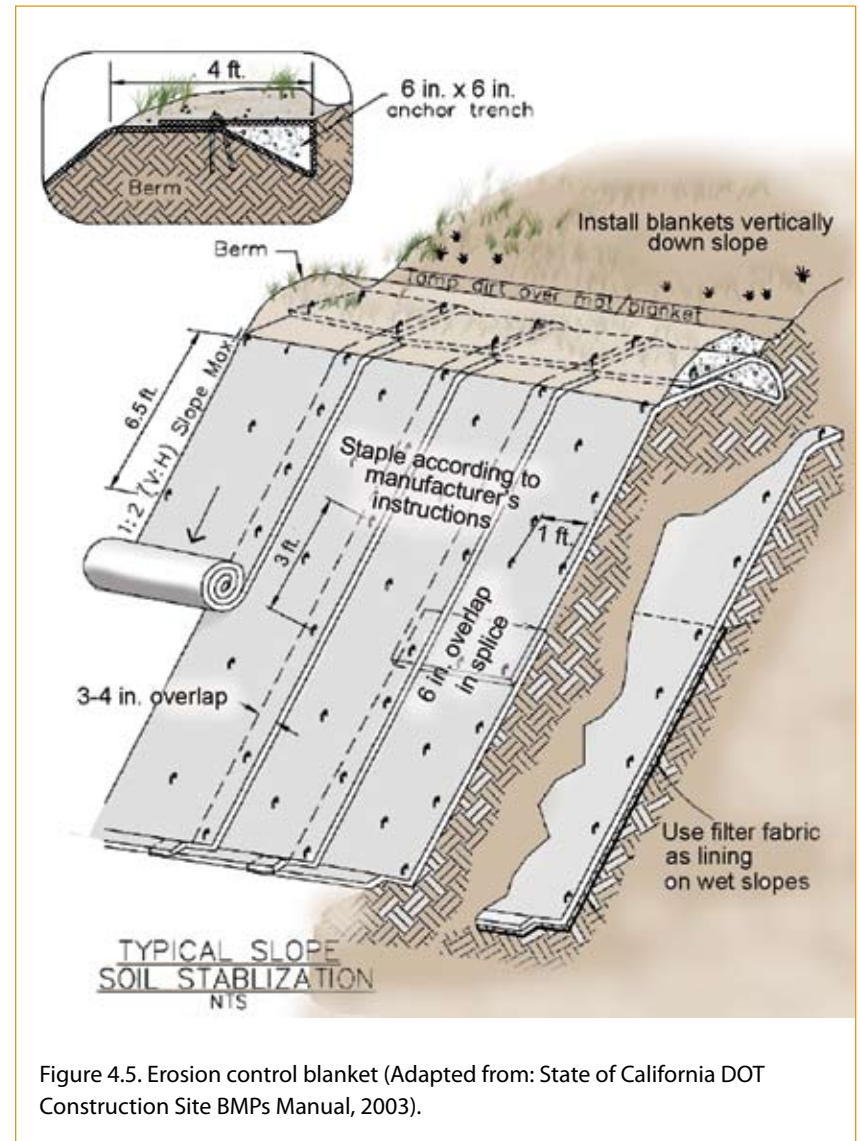

Figure 4.5. Erosion control blanket (Adapted from: State of California DOT Construction Site BMPs Manual, 2003).
1. Dig anchor trench at top of slope (Figure 4.5).